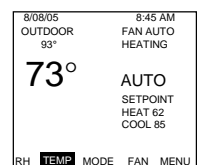

Figure 1
4. You are now returned to the Main Menu and Figure 1 is a similar view. NOTE: Outdoor temperature is only displayed if an outdoor sensor is installed.